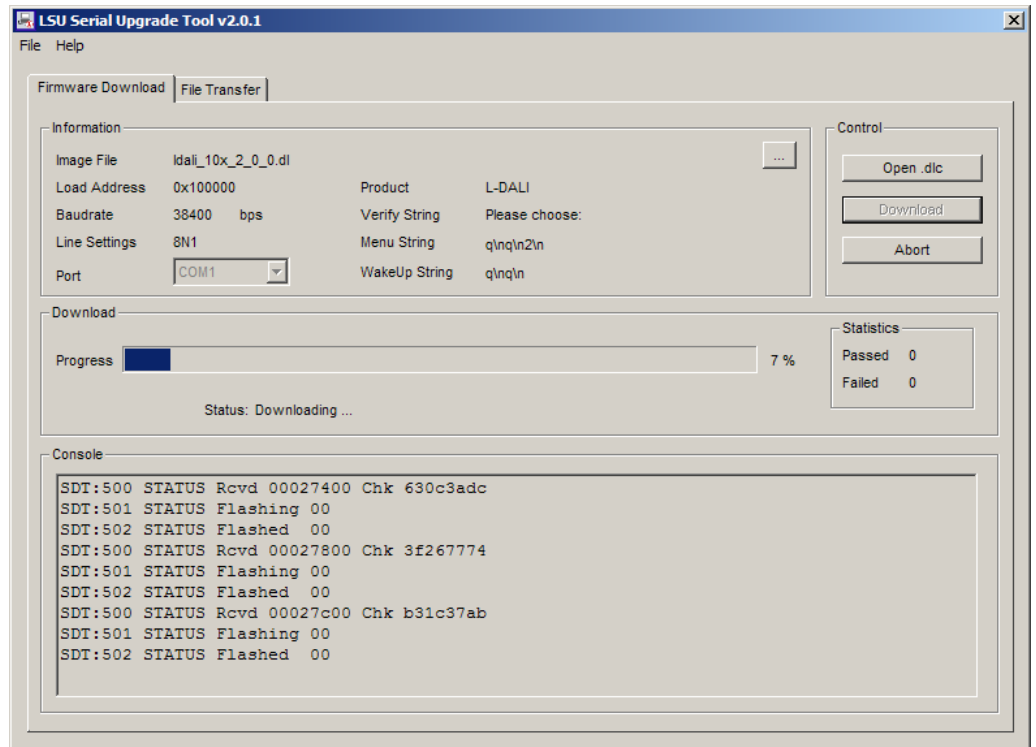

Figure 256: Progress Bar during Firmware Download.
2. If the L-DALI is not connected to COM1 you can change the port to COM2, COM3, or COM4. Make sure that the product shown under “Product” matches the device you are upgrading. Press **Download** to start the download. A progress bar as shown in Figure 256 can be seen.